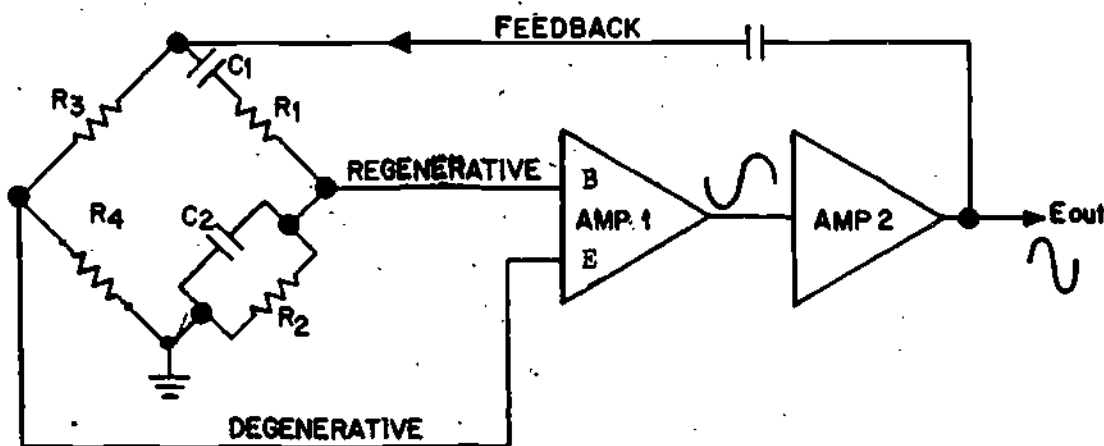

Figure 6
7. The degenerative feedback of the Wien-bridge oscillator circuit is provided by the resistive voltage divider consisting of resistors R_3 and R_4 . This is shown in Figure 6.